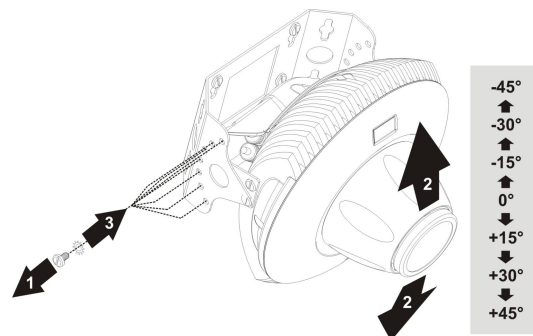

Fig 3.11) Adjusting the camera angle
- 7) Finally, you can adjust the camera to the required angle as indicated in Fig 3.11)